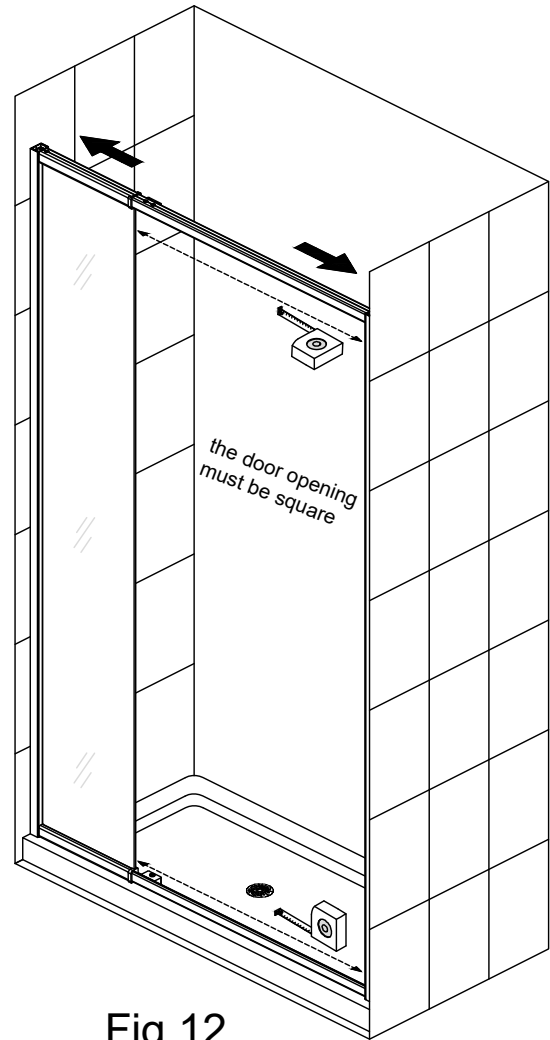

Fig 12
- 1、 Check and adjust the door opening for square and make certain that the entire assembly is tight to the threshold. (Fig 12)